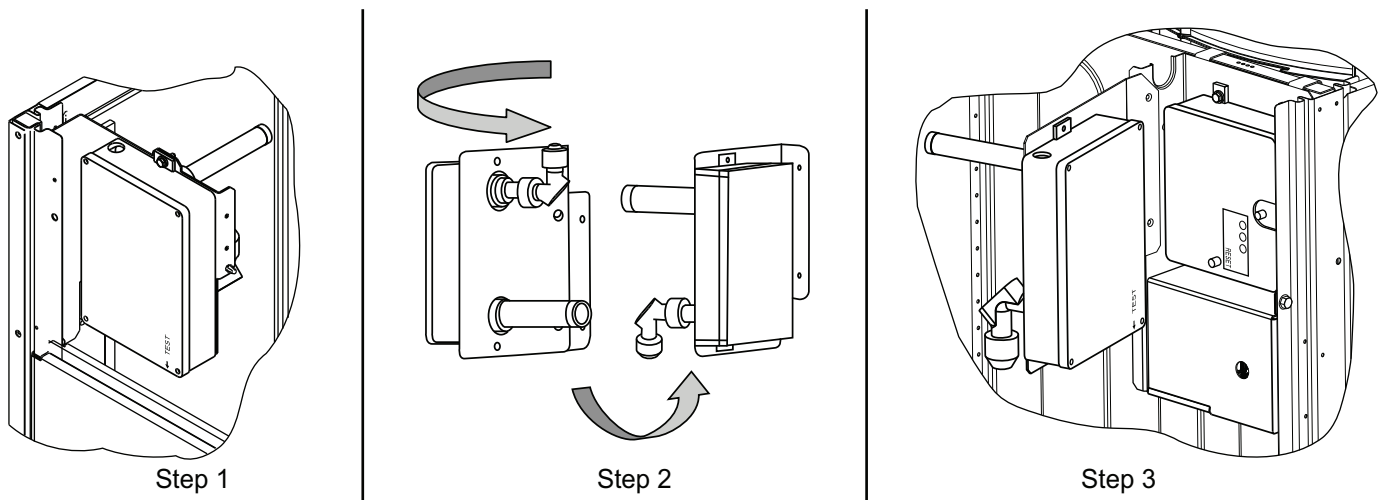

Fig. 69 — Completing Installation of Return Air Smoke Sensor
1. Unscrew the two screws holding the Return Air Smoke Detector assembly. See Fig. 69, Step 1. Save the screws.
2. Turn the assembly 90 degrees and then rotate end to end. Make sure that the elbow fitting is pointing down. See Fig. 69, Step 2.
3. Screw the sensor and detector plate into its operating position using screws from Step 1. See Fig. 69, Step 3.